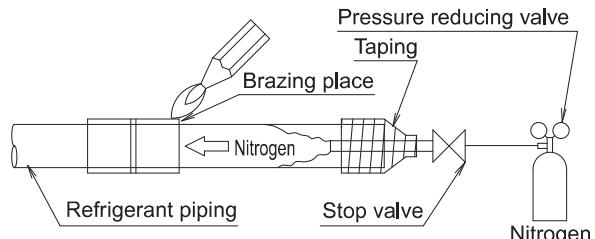

Fig. 9
- Use the insulation for fitting (3) and (4) provided to the liquid piping and gas piping, respectively and conduct heat insulation work. (Tighten both edges of the insulation for fitting(3) and (4) for each joint with clamp(7)).
- Make sure that the joint of the insulation for fitting(4) and (5) for the joint on the liquid piping and gas piping side faces upwards.
- Wrap the middle sealing material(6) around the insulation for fitting (3) and (4) for the joint(flare nut part).
- Before brazing refrigerant piping, have nitrogen flow through the refrigerant piping and substitute air with nitrogen (NOTE 1) (Refer to Fig. 9). Then, carry out brazing (NOTE 2).